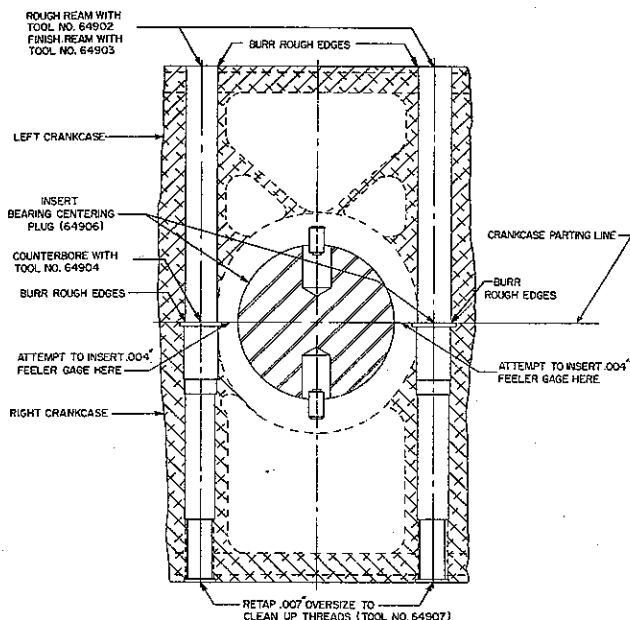

Figure 7-10. Cutaway of Crankcase Showing Steps to Install Body Fit Bolts
7-36. Attempt to insert a 0.004 inch tapered feeler gage between the crankcase mating faces, see figure 7-10. If the gage will not enter between the crankcase parting faces, the crankcase is considered satisfactory to be modified as directed in the repair and replacement section.
8. Use a 3/4 inch counterbore (P/N 64904) and standard tap handle to resize the oil seal counterbore hole. Exercise caution so as not to go deeper than the present depth. See figure 7-10.